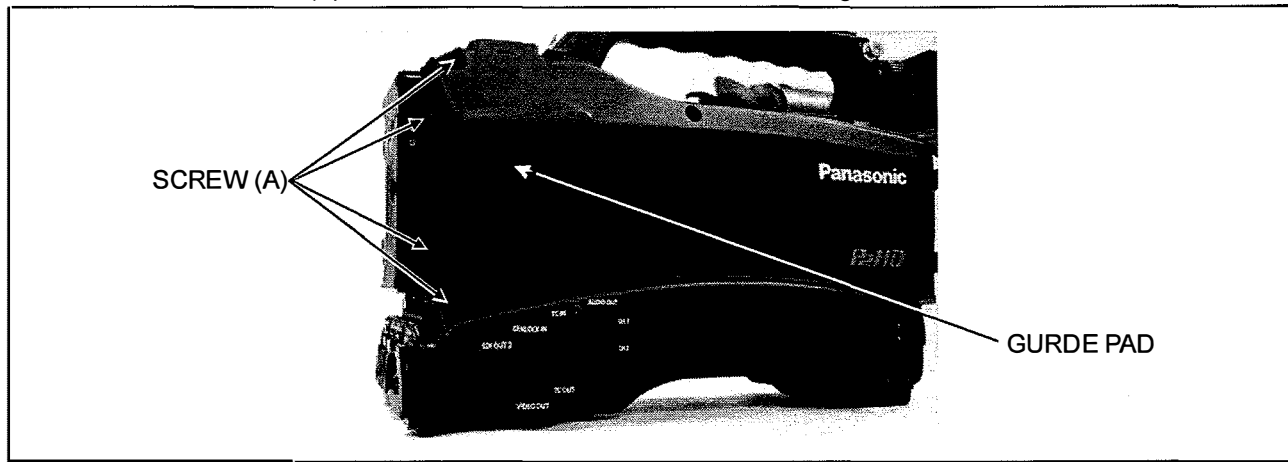

Figure 1-2-2
2. Unscrew the 4 screws (A) and remove the GURDE PAD as shown in figure 1-2-2.